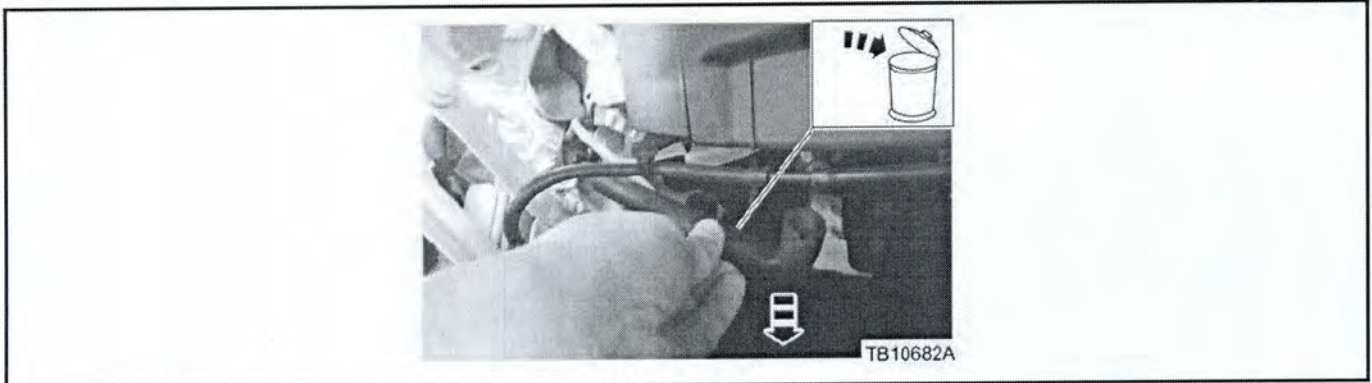

Figure 2 - Article 15-0118
5. Remove and discard the drain hose from the passenger side of the cowl panel grille by pulling the hose from the drain nozzle. (Figure 2)